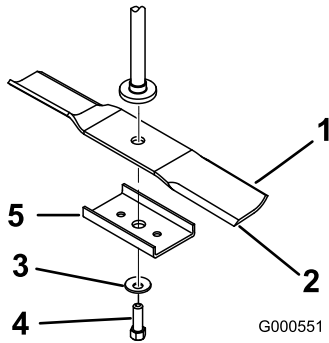

Figure 47
2. Remove the blade bolt, the curved washer, the blade stiffener, and the blade from the spindle shaft (Figure 47).
1. Install the blade onto the spindle shaft (Figure 47).
2. Install the blade stiffener, the curved washer (cupped side toward the blade), and the blade bolt (Figure 47).